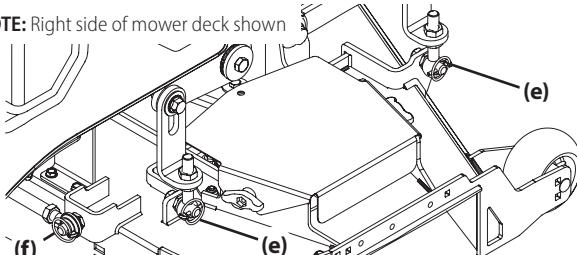

Figure 33
4. Remove the four lynch pins (e) that secure the deck to the deck lift assembly. See Figure 33.
5. Remove the lynch pin (f) securing the rear stabilizer bar to the rear, right side of the deck. See Figure 33.